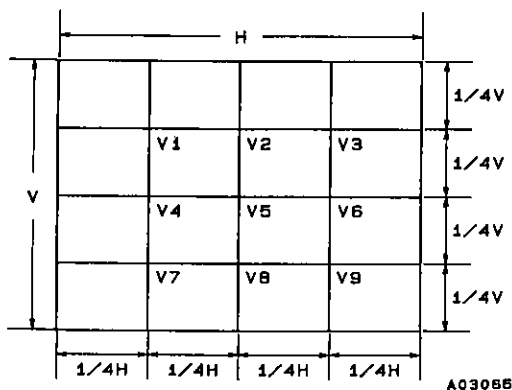

Fig. 4 Image Measurement Points
Measure the CCD output signal for the nine points in the image indicated in Figure 4 in the test method 1 setup state. Derive the non-uniformity (VF) from formula 1.